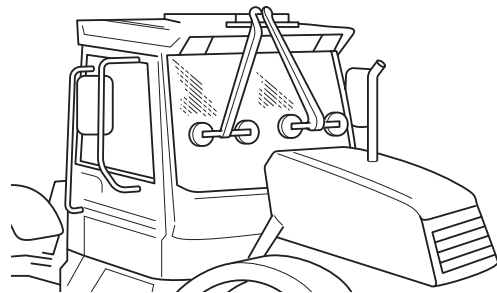

Fig 22. Typical M/c. Installation
- a Always use the special lifting tools when moving the glass. Use a lifting strap to hold large panes of glass in position. ⇒ Fig 22. \(□ B-30\).
The engine speed will vary according to the following characteristic: → Fig 22. (□ C-21)